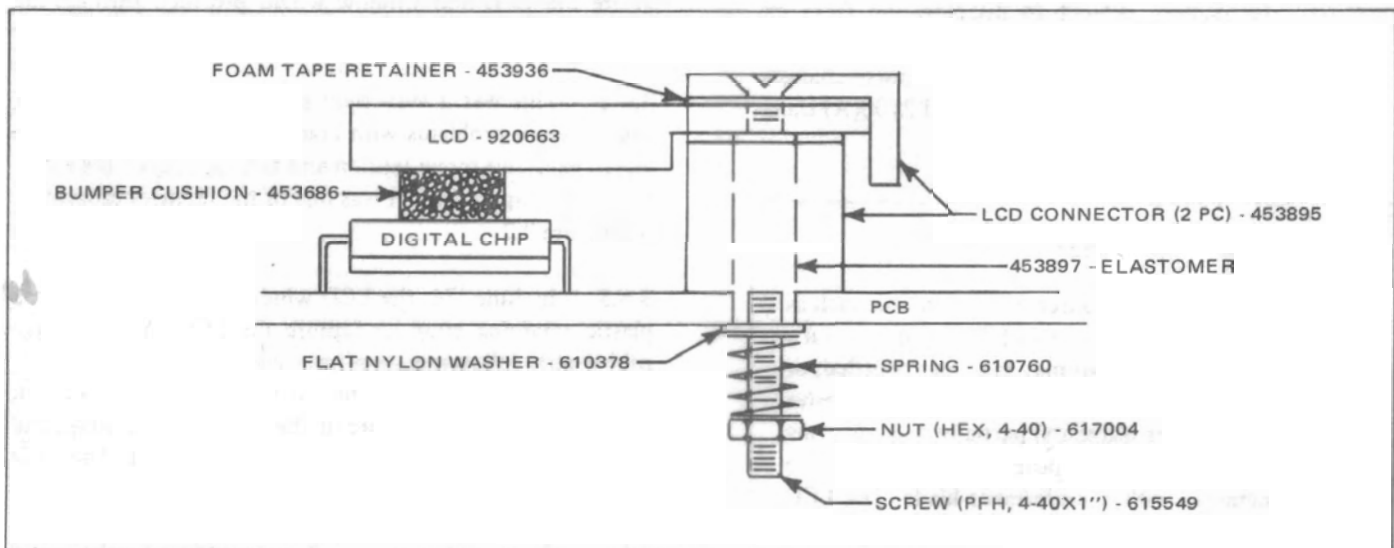

Figure 3.4 - Revision E LCD Connector Detail Drawing
3.6.5 To solve this problem, the LCD contact area of the retainer strap was fitted with a strip of double-sided foam adhesive to prevent movement of the LCD. The Bumper on the digital chip was changed to P/N 453940 and a P/N 453935 bumper was added to the inside meter case above the window. This information was covered in Field Service Bulletin 20-1113, included in the appendix of this publication. Rev. E PCB changed the connector profile as shown in Figure 3.4.